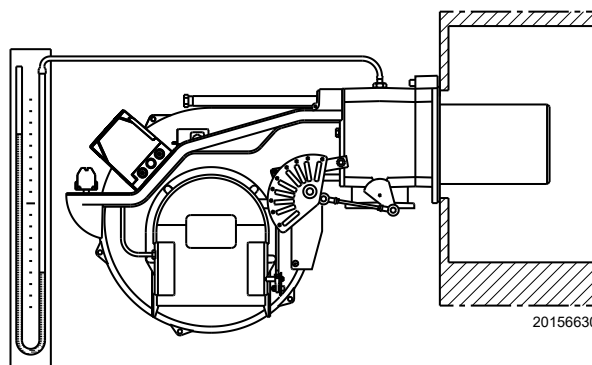

Fig. 26
- Fit a U-type pressure gauge (Fig. 26) to the gas pressure test point on the pipe coupling.
The arrival of gas to the sleeve is indicated by the U-type pressure gauge (Fig. 26 on page 25). Once ignition has taken place, proceed with burner global calibration operations.
A rough indication can be obtained from Tab. H on page 21, just read the gas pressure on the "U" pressure gauge (see Fig. 26 on page 25) and follow the indications.